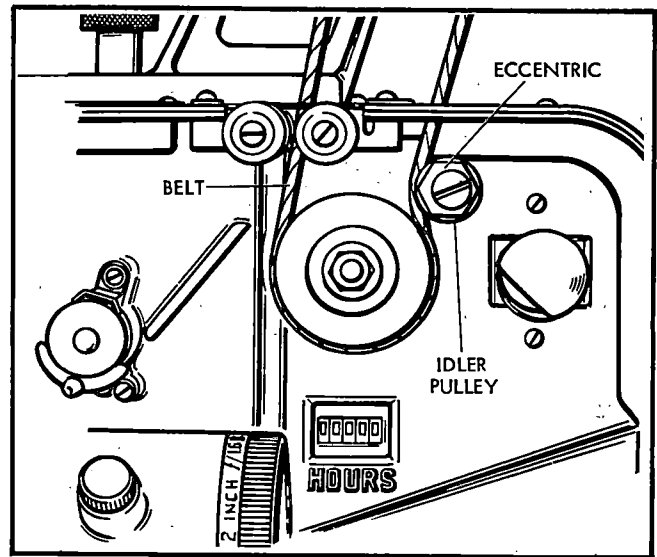

Figure 40. Fabric Belt Tension Adjustment
98. FABRIC BELT TENSION ADJUSTMENT. Proper belt tension is maintained by loosening the screw which attaches the idler pulley and eccentric bearing (figure 40) and rotating the bearing. When properly adjusted, it should be possible to hold the take-up reel during operation and the belt should continue to drive the clutch. The feed reel belt is properly adjusted if the belt does not falter when the feed reel is touched lightly during operation.